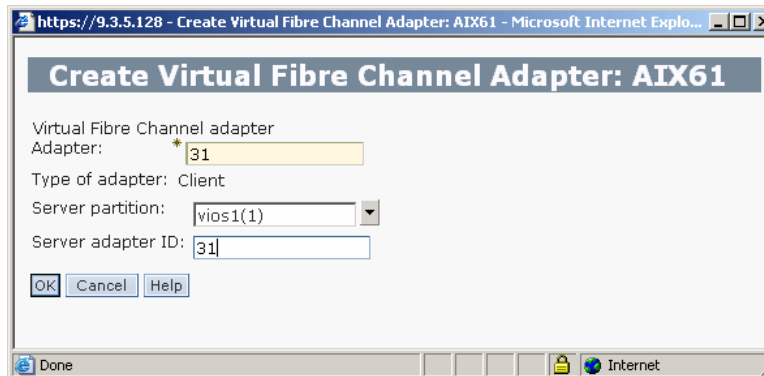

Figure 2-35 Define virtual adapter ID values
- c. Enter the virtual slot number for the Virtual Fibre Channel client adapter, select Virtual I/O Server partition to whom the adapter may be assigned to, and enter the Server adapter ID as shown in Figure 2-35. and click **OK**.